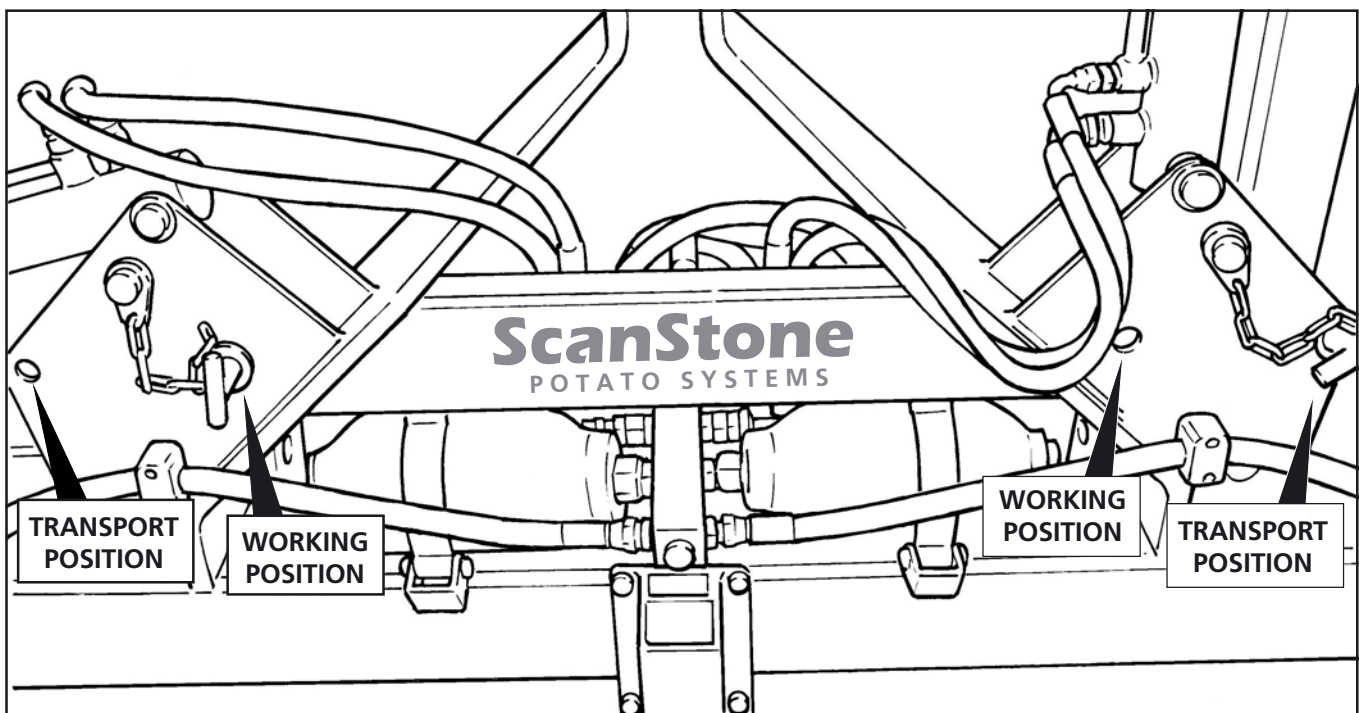

Fig 1
- Retract the marker arm outer tubes and secure with the pinch screws. Use the marker arm locking pins to hold the markers in the upright position, Fig 1.
Optional hydraulically operated marker arms can be fitted to allow the operator to retract the markers when turning at headlands or when folding for transportation. (see Fig 1 for pin position details).